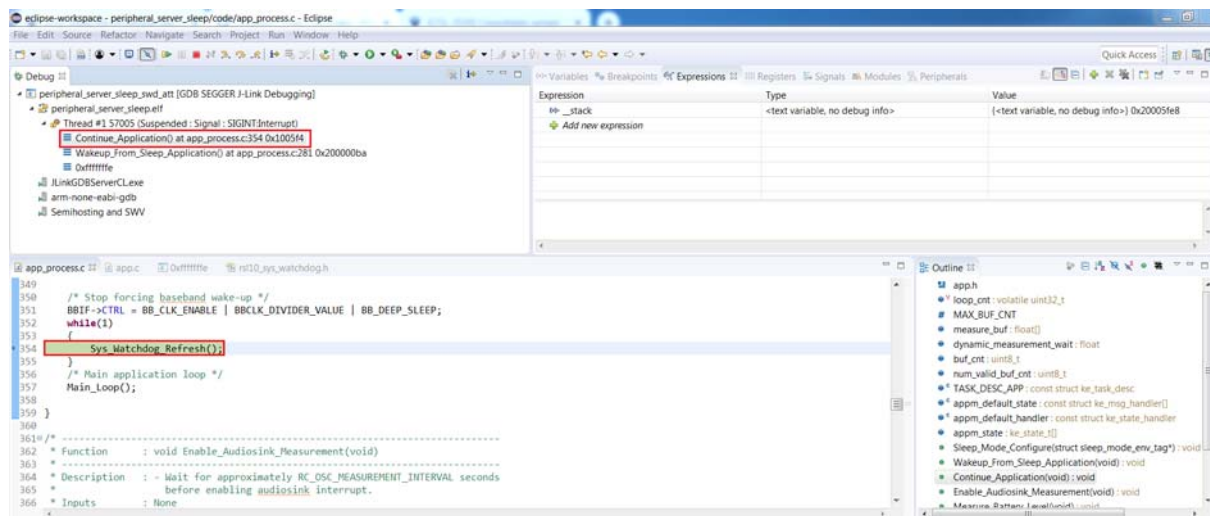

Figure 48. Second Debug Session Perspective After Connecting to the Running Target
8. After the target exits Deep Sleep Mode, it is running in the infinite loop (step 1), and we can connect to the running target by starting the second debug session (see Figure 48). Note that the debugger is able to reattach to the running target and halt the processor after waking up from sleep.